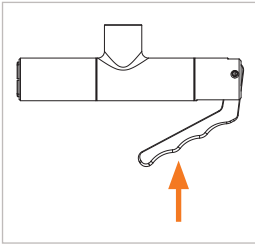

Figure 5
- ▶ Actuate the hand lever (Pos. 2) (Figure 5). The clamping jaws open.